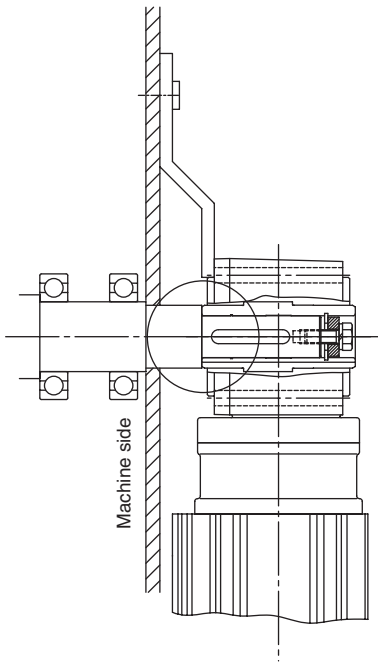

Fig. C-6 Secured by a Spacer and a Snap Ring
b) Securing Hyponic Drive to prevent movement away from the machine side (Figs. C-6~C-8)